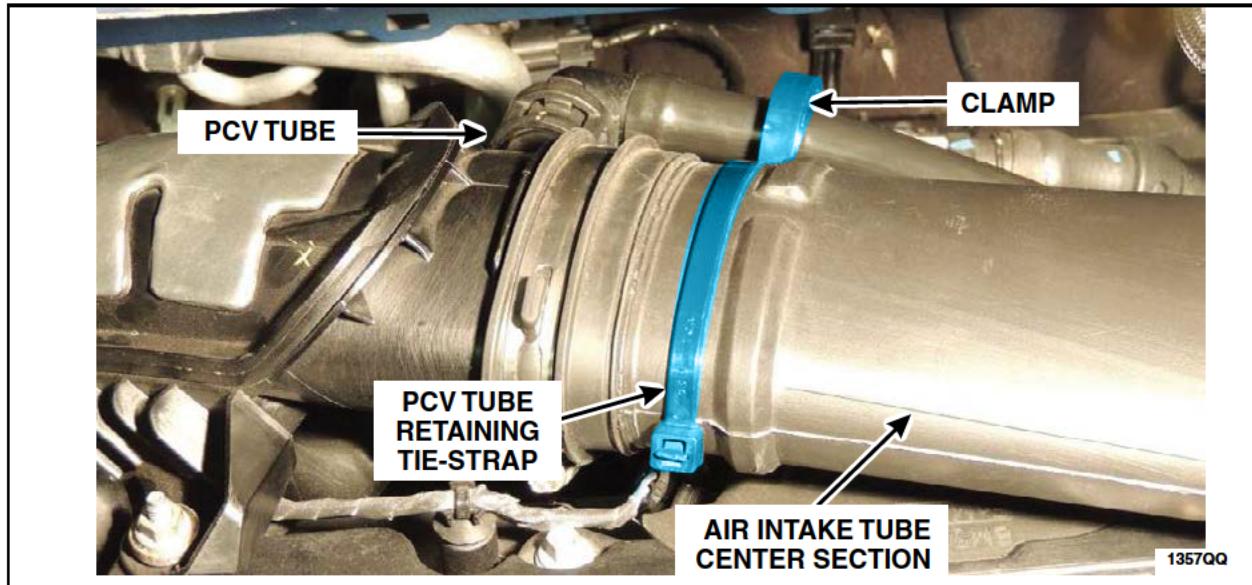

FIGURE L1
7. Install the PCV tube retainer / tie-strap provided in the vehicle parts kit. See Figure L1.